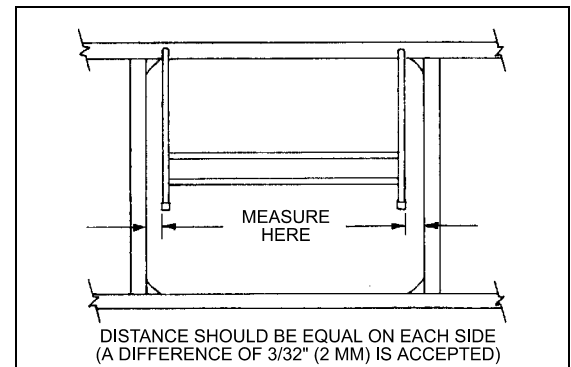

FIGURE 45: PANTOGRAPH DOOR ADJUSTMENT 18063
5. When the door is straight, remove the 2x4's and check door operation and fit. A difference of $3/32$ " (2mm) between both sides is accepted (Fig. 45).